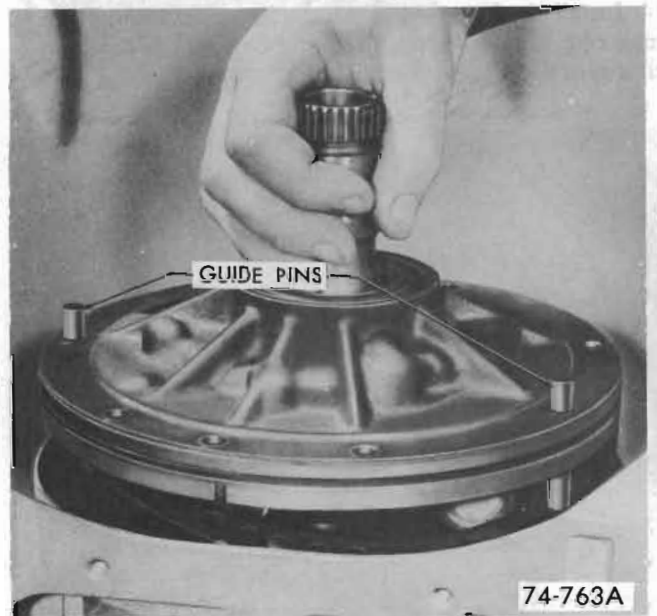

Figure 76-258
20. Install guide pins into transmission case. See Figure 76-258.